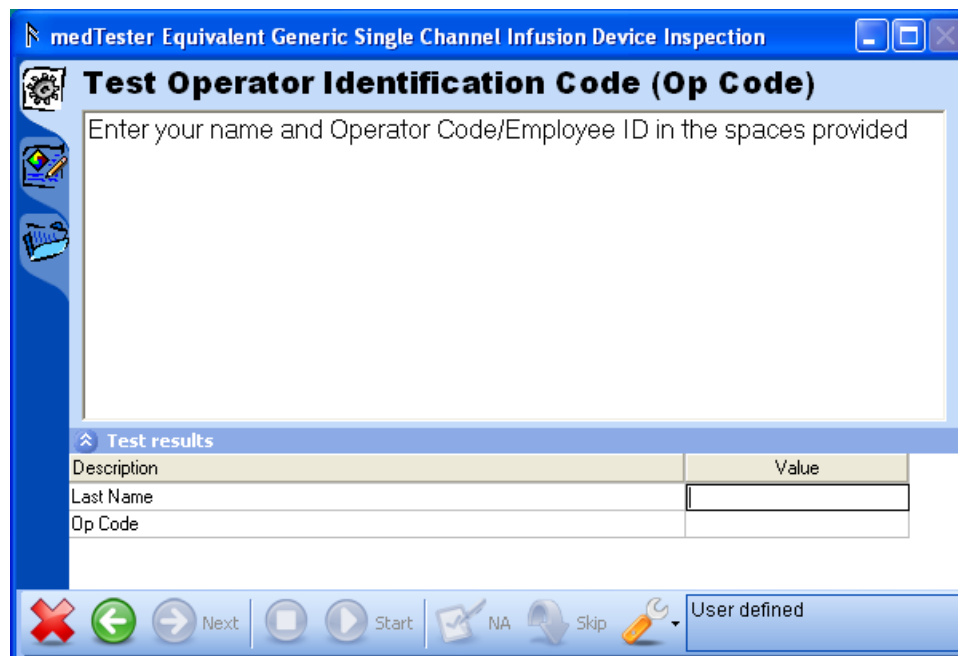

Figure 3-7. Test Guide Window
8. Click the **Next** toolbar button (➡) to go to the first Test Guide window shown in Figure 3-7.